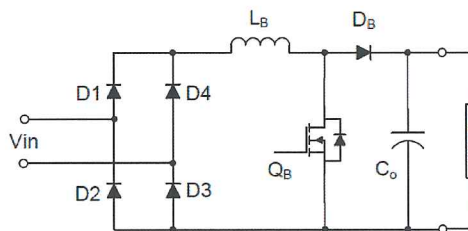

Fig. 4. PFC boost converter
4.1 A single phase AC-DC power factor correction (PFC) boost converter is given in Fig.4.